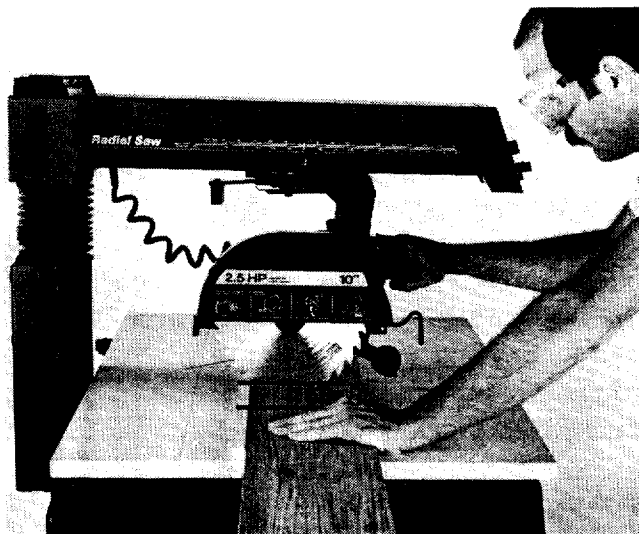

*Fig. 102 Distance Needed to Complete Crosscut*
13. Pull blade through fence and workpiece just enough to complete the cut. Fig 102